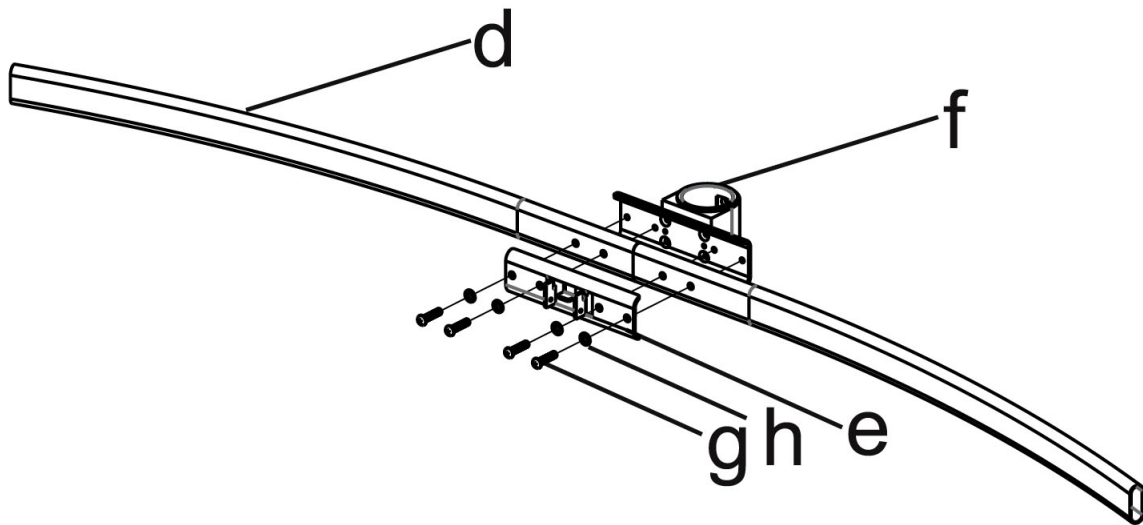

Figure 2a
1. Assemble the **Curved Arms (d)**, **Arm Connector Plate (e)**, **Arm Clamp (f)** and fasten with **M6x25 Bolts (g)** and **M6 Washers (h)** using an **Allen Key (o)** as shown in **Figure 2a**.